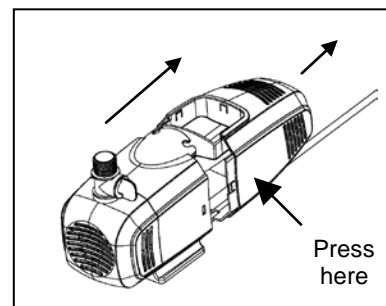

Fig. 12
6. Remove rear cover by gently pressing on the sides and pulling it away from the pump. Fig. 12